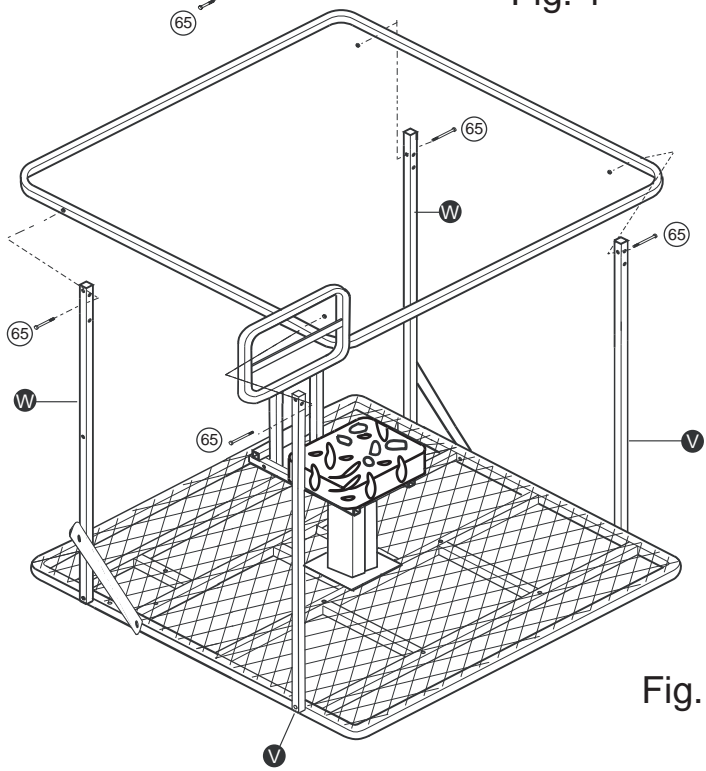

Fig. 3
6. Attach front of Shooting Rail **S** to Front Rail Support **V** with **1-65mm bolt** for each side. (See Fig. 3)
7. Attach rear of Shooting Rail **S** to Rear Rail Support **W** with **1-65mm bolt** for each side. (See Fig.3)